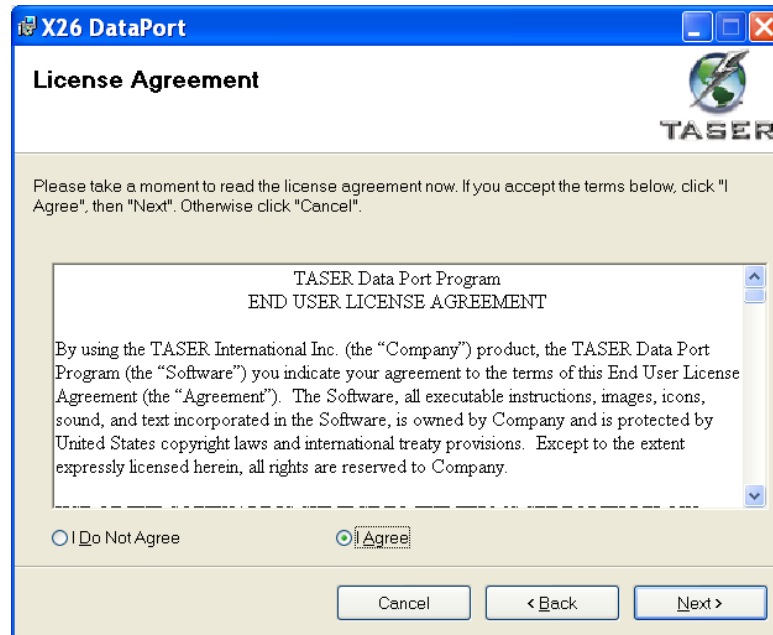

Figure 2
5. Read the End User License Agreement and, if it is not already selected, click the **I Agree** button if you accept the terms (Figure 2).